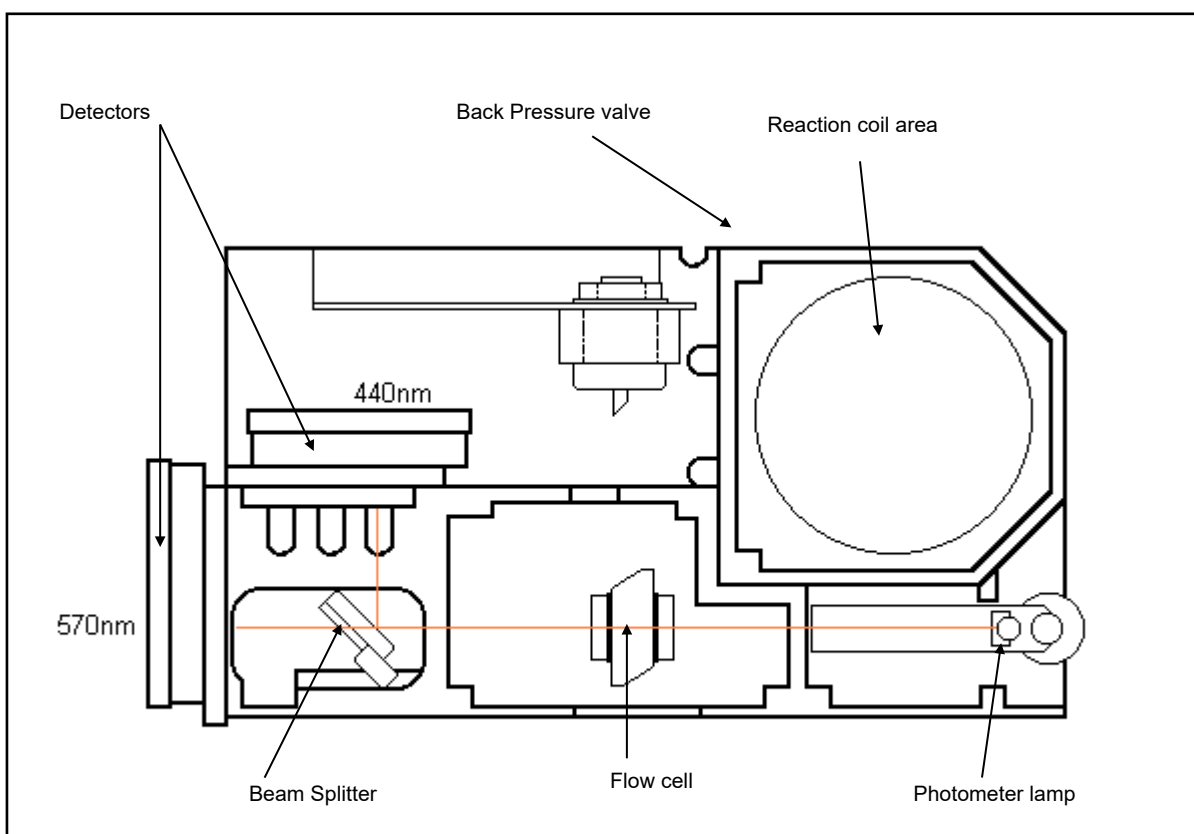

Fig 6.2 Photometer Reaction Coil Unit
1. Pull the photometer/reaction coil unit tray out (see Fig 6.2).